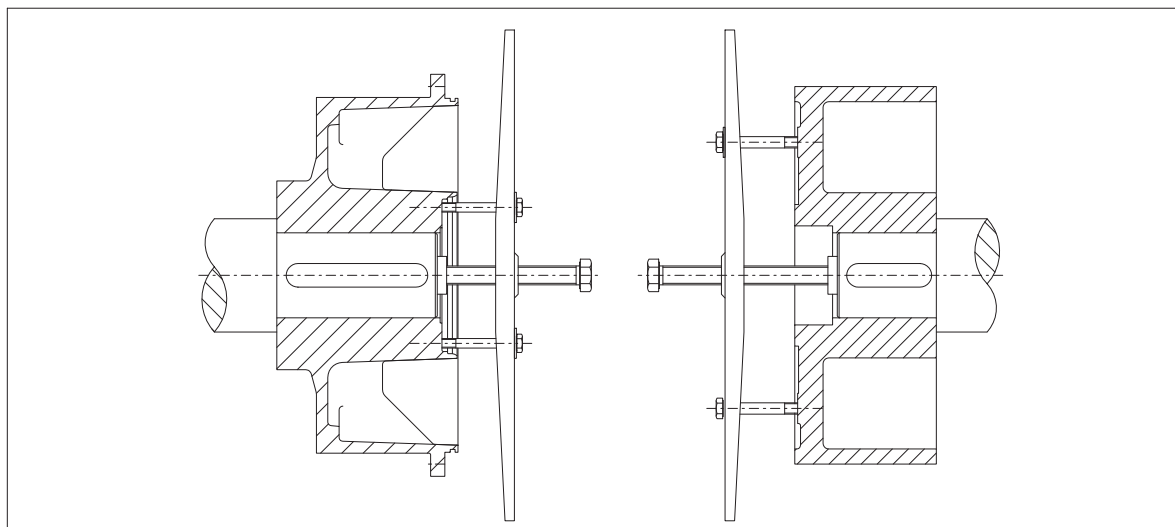

Fig. 13: Disassembling the FLUDEX coupling -c
The space between the shafts now suffices for the fitted hubs, if necessary, to be pulled off by means of commercially available tools after releasing the axial fixture. Located at the end-face side in the hub in the hub-carrier part (120) are 2 tapped holes set 180° apart, which may be used to insert drawing bolts (see figure 13).